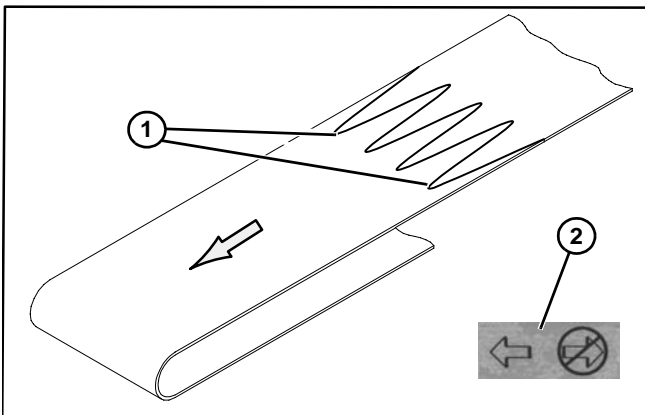

Figure 75
2. Orient belt so splice leading fingers (Figure 75, item 1) point in the direction of belt travel as identified by the conveyor directional label (Figure 75, item 2).